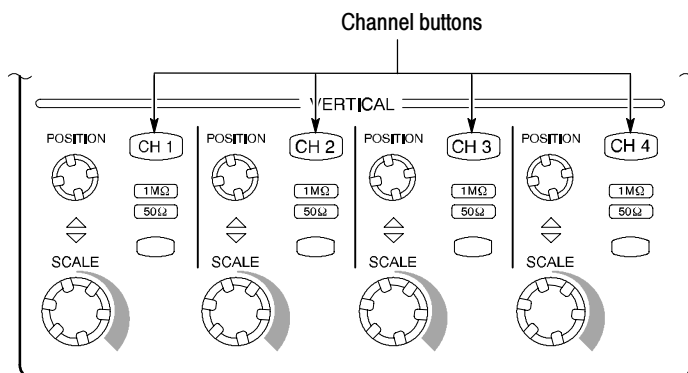

Figure 1-6: Channel button location
3. *Turn off all channels:* If any of the front-panel channel buttons are lighted, push those buttons to turn off the displayed channels. See Figure 1-6.